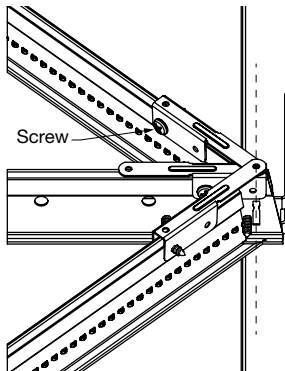

Fig 36
- After the position has been verified, clamp the PAC to the cut XM Cross Tee and attach with one screw through the side of the clip and into the bulb (**Fig 36**).